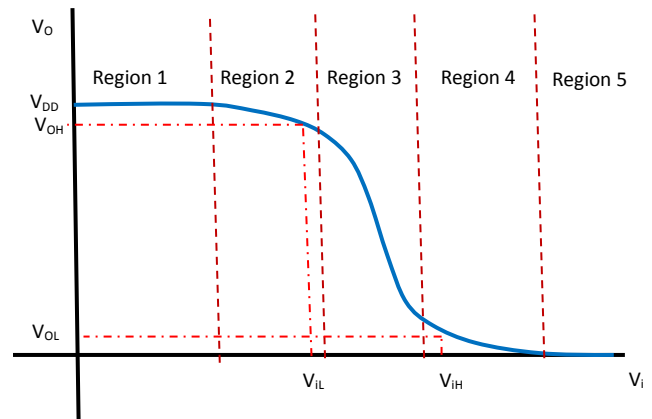

Figure 4 The voltage transfer curve of CMOS inverter
3. Using computer software such as MS Excel or Matlab, plot the voltage transfer curve (V_o vs. V_i) by varying the input voltage from 0 to 5 Volts. You may use the DMMs to measure your data points. You should get a curve that is similar to that shown in Figure 4.
4. Determine the five transition regions of CMOS inverter, similar to those in Figure 4.